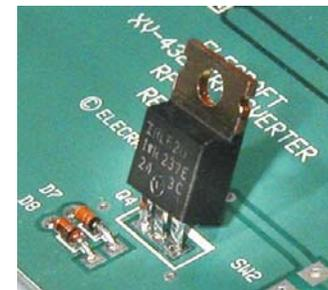

Figure 22. Installing Transistor Q4.
- Tilt the transistor back at an angle so the top is not more than 7/8" (2.2 cm) above the PCB to provide clearance between the tab and the transverter cover when the unit is assembled. (See Figure 22).